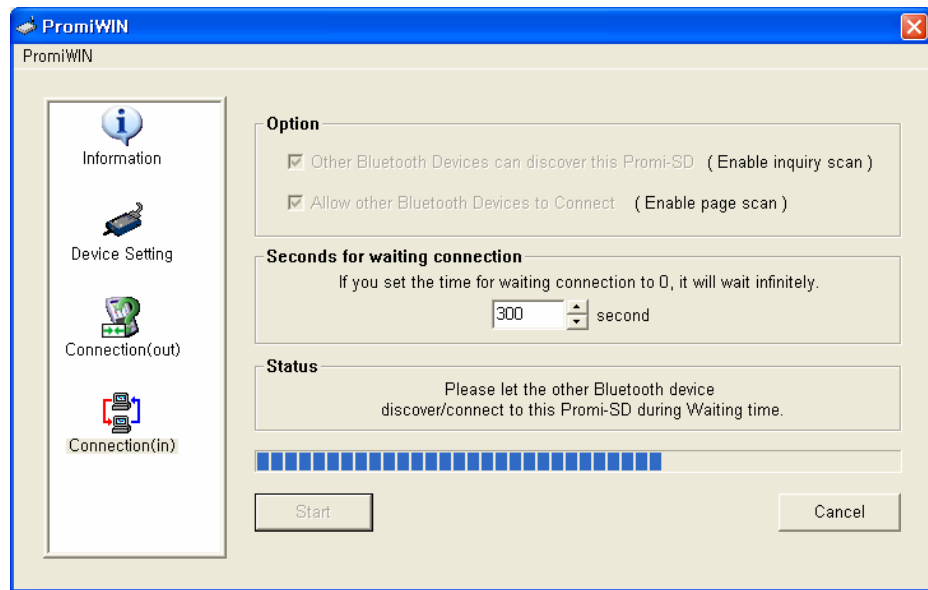

Figure 3.
6. Click the 'Connection(in)' icon in list control box. Check both options and then click the 'Start' button as shown in Figure 3. The SD1 now starts INQUIRY SCAN and PAGE SCAN operations. During the operation, the STATUS LED will flash green, twice every 3 seconds.